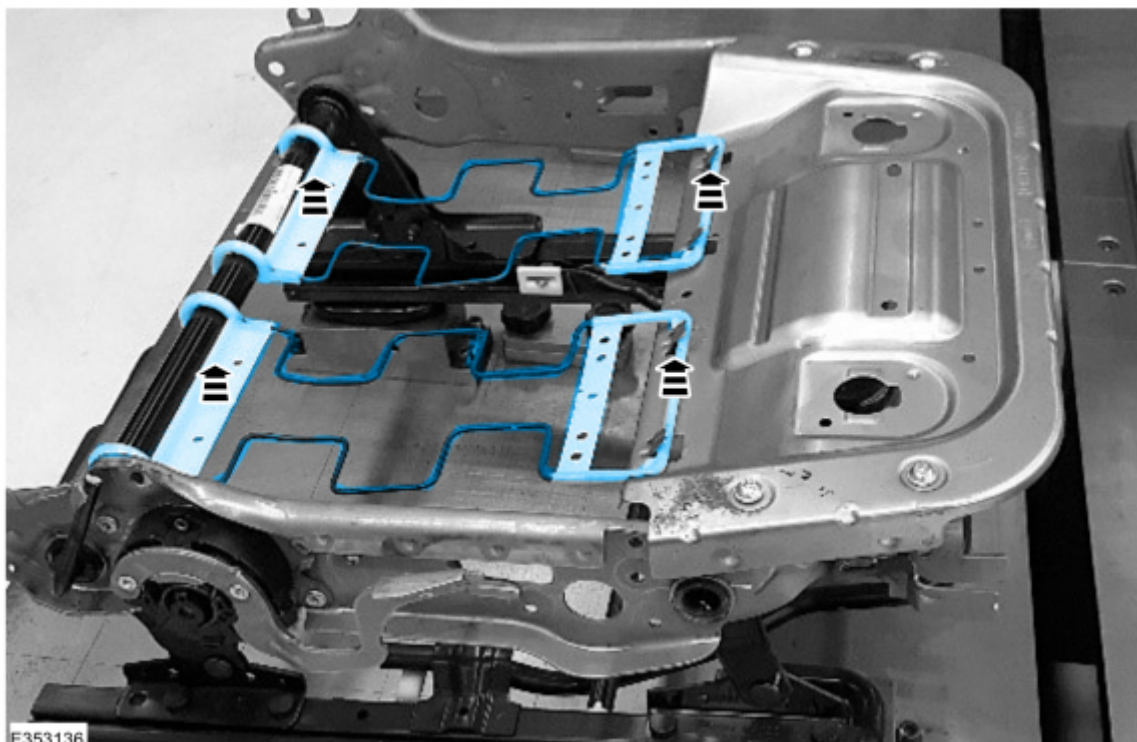

Figure 2
1. Remove the 2 springs from the seat cushion. (Figure 2)